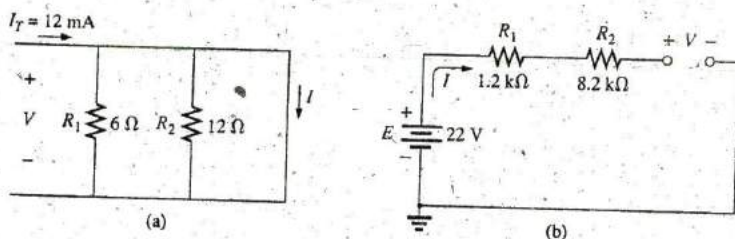
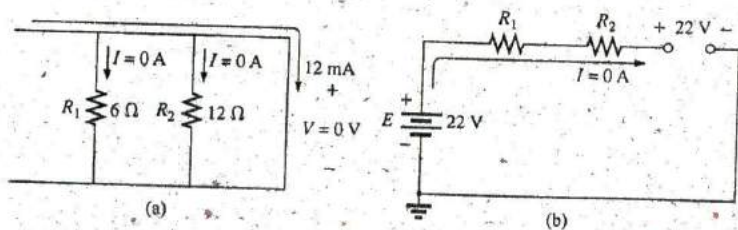

FIG. 6.56
FIG. 6.57
EXAMPLE 6.27 Determine the unknown voltage and current for each network in Fig. 6.56.
Solution: For the network in Fig. 6.56(a), the current I_T will take the path of least resistance, and since the short-circuit condition at the end of the network is the least-resistance path, all the current will pass through the short circuit. This conclusion can be verified using the current divider rule. The voltage across the network is the same as that across the short circuit and will be zero volts, as shown in Fig. 6.57(a).
For the network in Fig. 6.56(b), the open-circuit condition requires that the current be zero amperes. The voltage drops across the resistors must therefore be zero volts, as determined by Ohm's law [$V_R = IR = (0)R = 0$ V], with the resistors acting as a connection from the supply to the open circuit. The result is that the open-circuit voltage is $E = 22$ V, as shown in Fig. 6.57(b).